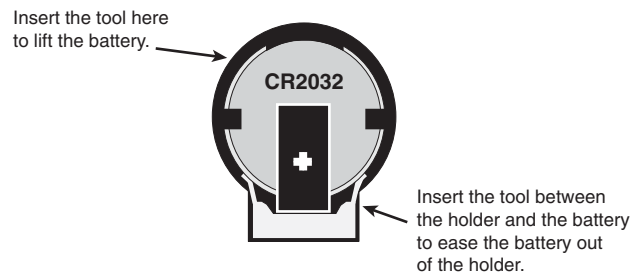

Figure 5-1 Battery and holder
1. Refer to Figure 5-1. Insert a flat plastic tool (plastic knife, pen cap, etc.) into one of the openings between the battery and the holder to lift the battery.